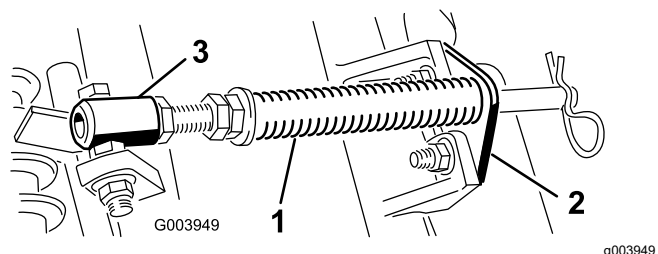

Figure 4
1. Remove the 2 carriage bolts and nuts securing the rod bracket to the cutting unit tabs (Figure 4).
2. Remove the flange nut securing the spring tube bolt to the carrier frame tab (Figure 4), and remove the assembly.
Note: Position the bolt head to the outer side of the tab as shown in Figure 4.